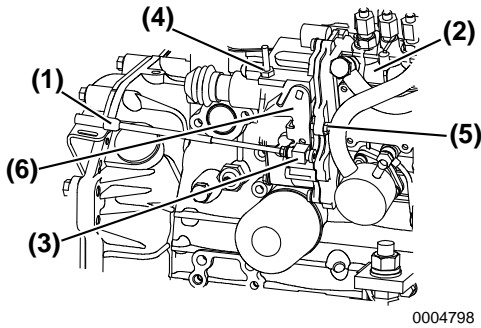

Figure 4
NOTICE: *Never* adjust the high speed stop bolt (**Figure 4, (4)**) on the governor. This will void the engine warranty.